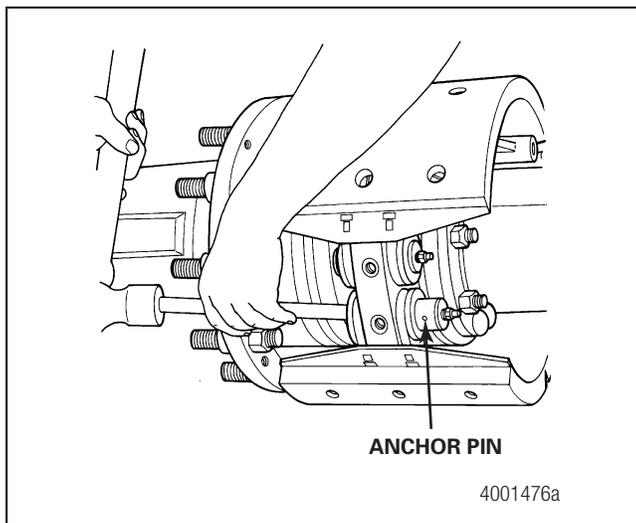

Figure 5.6
5. From the inboard side of the spider, use a hammer and a brass drift to remove the anchor pin from the spider and the shoes. Figure 5.6.